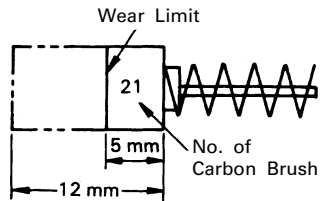

Fig. 11
4. Inspecting the carbon brushes (Fig. 11)